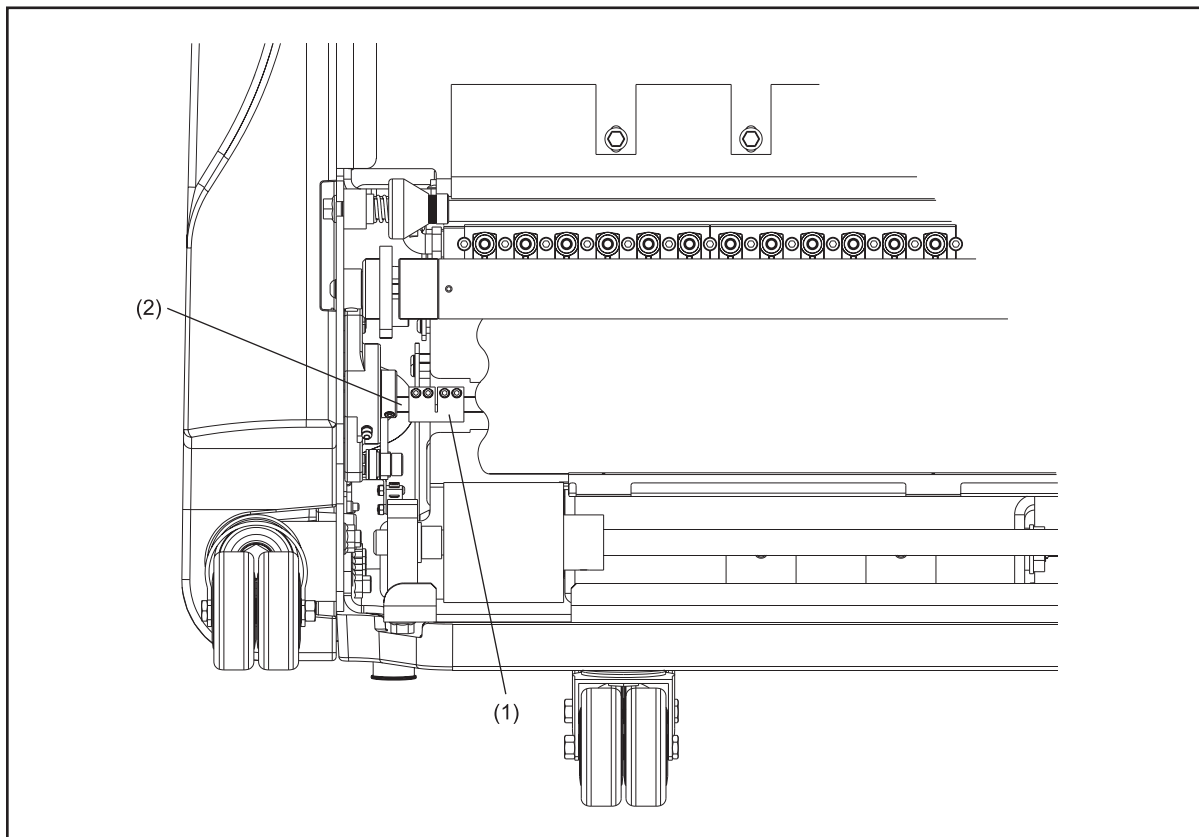

Figure 6-23 Collar
12. Locate the collar, on the 10-pin side, bottom of the machine (found directly under the dispersion roller) that holds the two sides of the brush lifting shaft. Refer to Figure 6-23.